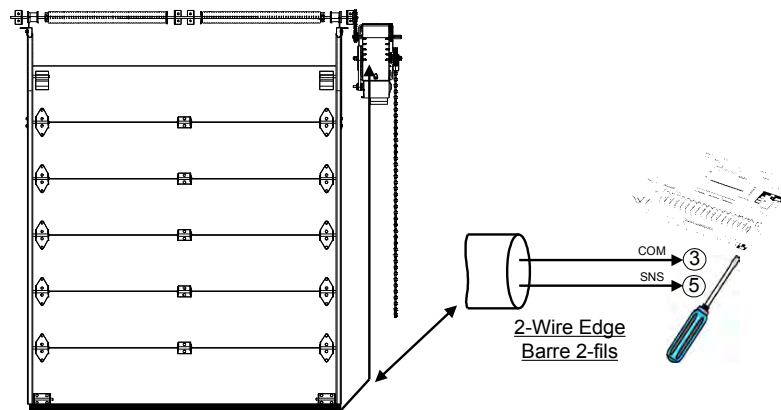

Figure 30 - Electric Reversing Edge
3. Use a coil cord or take-up reel to connect the sensing edge wires to the operator terminals. Install electric wires according to Figure 30.